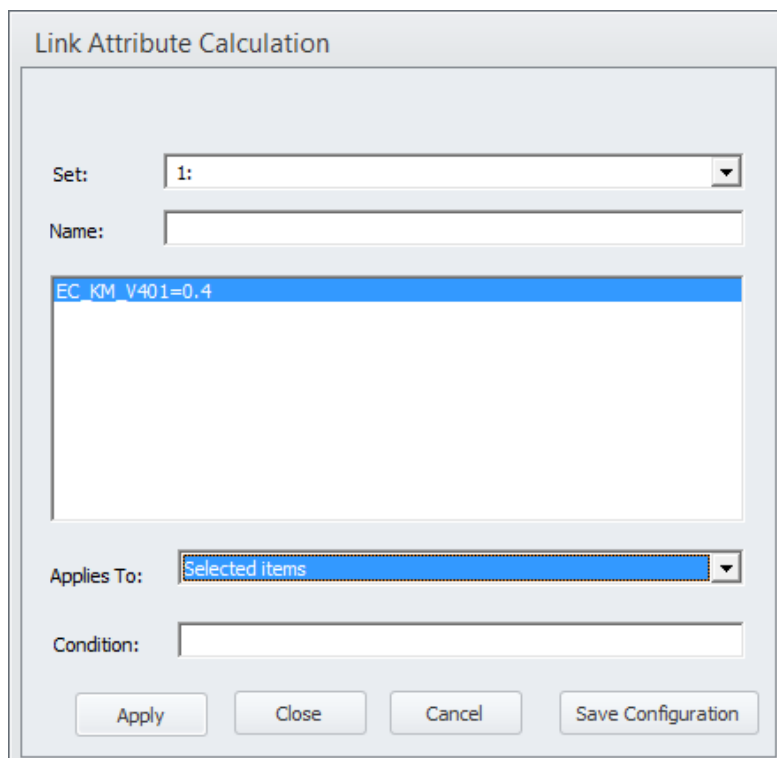

Figure 69 The Link Attribute Calculation window.
- 4) Select Link -> Compute... in the menu bar to access the Link Attribute Calculation window, see Figure 69.
- 5) Fill in the fields, see Figure 69. To insert edits in the main field in the middle, right click and select "Insert". A window, "Insert Equation", pops up – right-click in the blank field and select the attribute the user wants to edit, e.g., EC_KM_V401 as in Figure 69, and type in "=" followed by the value. More attributes can be edited by repeating the procedure. In the "Applies To:" drop down menu, select "Selected items".